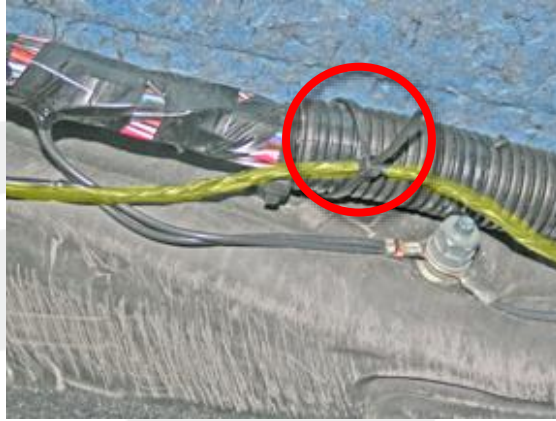

Figure 22 (TPMS harness highlighted)
27. Use a cable tie to secure the TPMS harness to the corrugated section of the RH main harness, behind the section of exposed wire (Figure 22). Remove any excess tie.